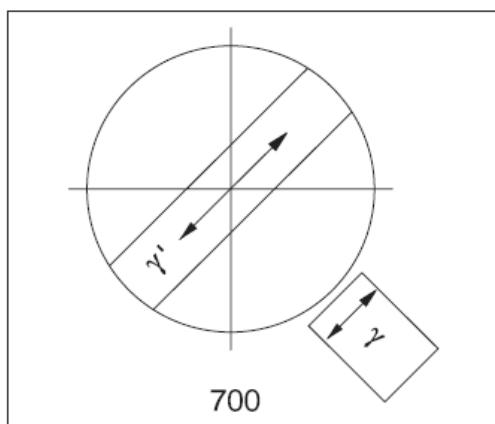

Fig. 4-13 Gamma direction
- Select crystals which are oriented in the gamma direction (Fig. 4-13).